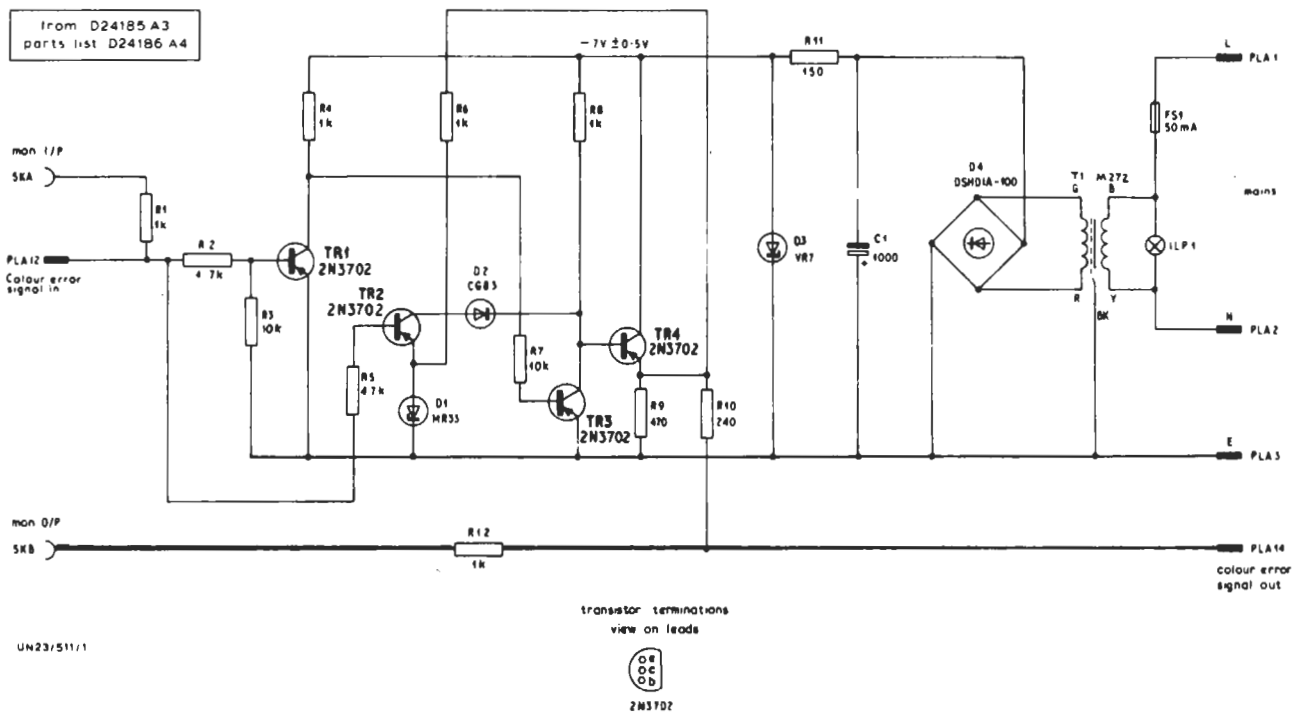

Fig. 1. Circuit of the Error Inverter UN23/511
The circuit of the UN23/511 is given in Fig.1. A *Colour-retard* signal (-3V) at the input turns TR1 on which turns TR3 off. TR4 base is therefore at about -7 volts and so TR4 emitter and the output of the unit are at about -6 volts. Current through R6 keeps zener diode D1 broken down, which holds the emitter of TR2 at -3.3 volts. TR2 base is at -3 volts and so TR2 does not conduct.
1. Connect a mains lead to the Painton socket with polarity as shown in the circuit diagram (Fig. 1). Plug the UN23/511 into the socket.